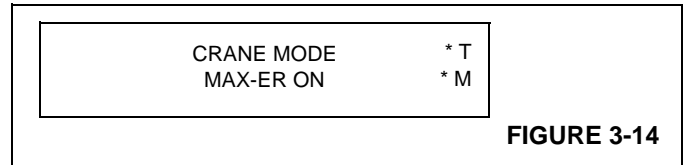

FIGURE 3-14
2. Then turn key counterclockwise and release to TURN OFF and confirm MAX-ER Off mode. Screen shown in Figure 3-14 appears.